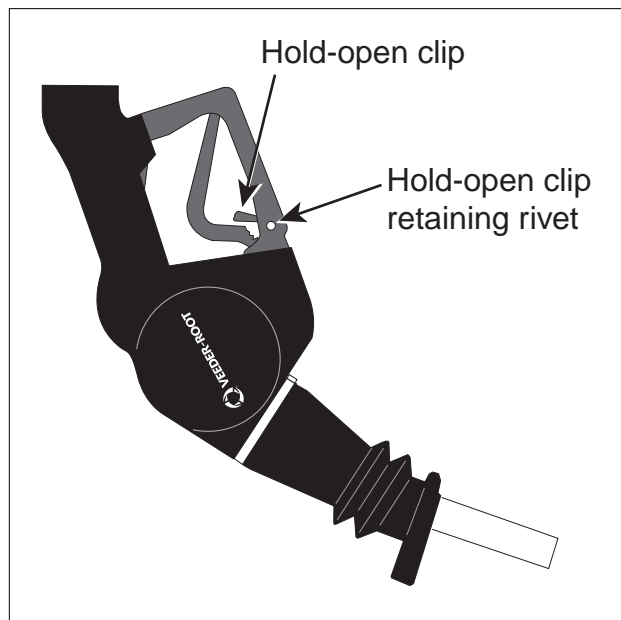

Figure 2. Removing Hold-Open Clip
7. **If local regulatory codes prohibit use of the ORVR nozzle's hold-open clip it must be removed prior to nozzle installation. Remove the nozzle to a safe area. Place the nozzle on a flat surface. Locate the alloy rivet securing the hold-open clip and spring in the nozzle's handle (see Figure 2). Using a drill with a 3/16" (5mm) bit, drill out the rivet. Discard the clip, spring and any rivet shards.**